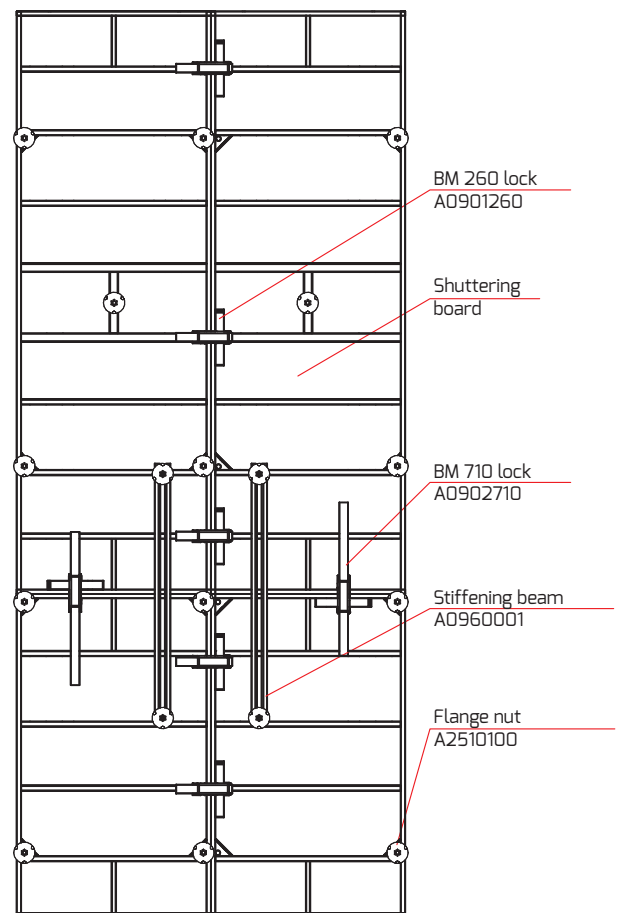

Fig. 3.7
- when installing the superstructures vertically on the boards instead of the BM 710 locks you can use the stiffening beams to increase the formwork stiffness (fig. 3.7);